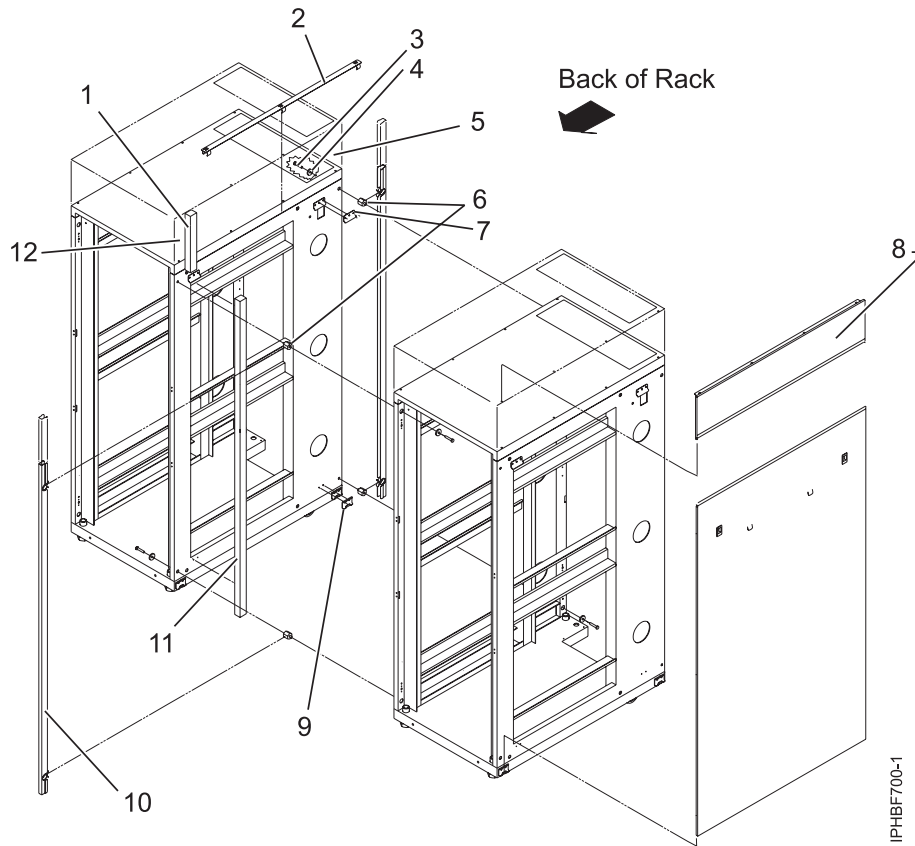

Figure 18. Removing the side panels, Z and J brackets, and installing standoffs and long foam to connect multiple racks
4. Install the first two standoffs in the upper-left and lower-right corners of the first rack as shown in Figure 18.
5. Install the second two standoffs in the upper-left and lower-right corners of the second rack as shown in Figure 18.
6. Attach the long foam as shown in Figure 18. For a model T42 rack, join the short foam to the end of the long foam, and adhere it to the frame length of the rack.